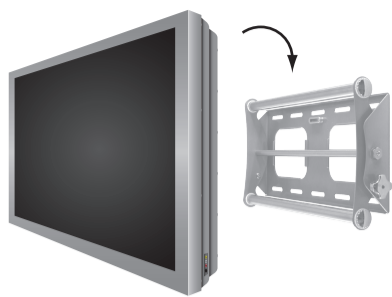

Fig. 5 - Carefully hook the display onto the wall plate.
1. With the help of another person, carefully lift your display and place it on the wall plate (Fig. 5). Do not release the display until the mounting arms have securely hooked onto the crossbars!